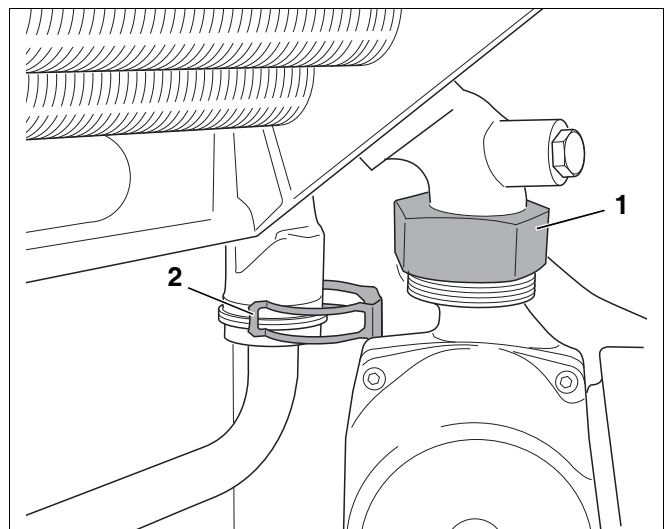

fig. 101 Loosening the backflow connection and dismantling the tension spring
- Loosening the backflow connection between the primary pump and heat exchanger (see fig. 101, pos. 1).
- Dismantle the tension spring between the supply pipe and the heat exchanger (see fig. 101, pos. 2).